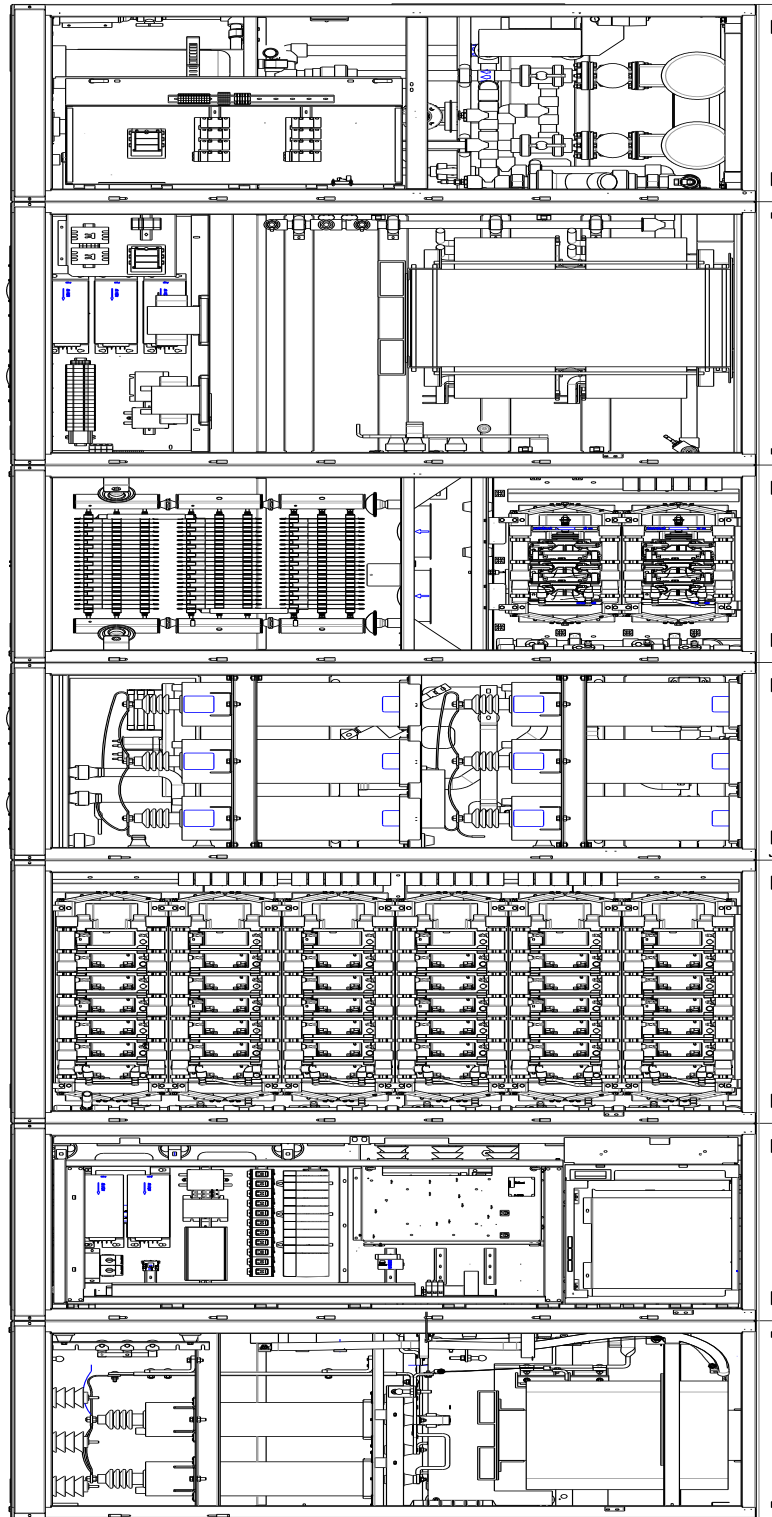

Figure 2.37 – Typical Footprint PowerFlex 7000 “C” Frame Marine Drive Structure Layout
- Large Footprint AFE rectifier (Figure 2.37)